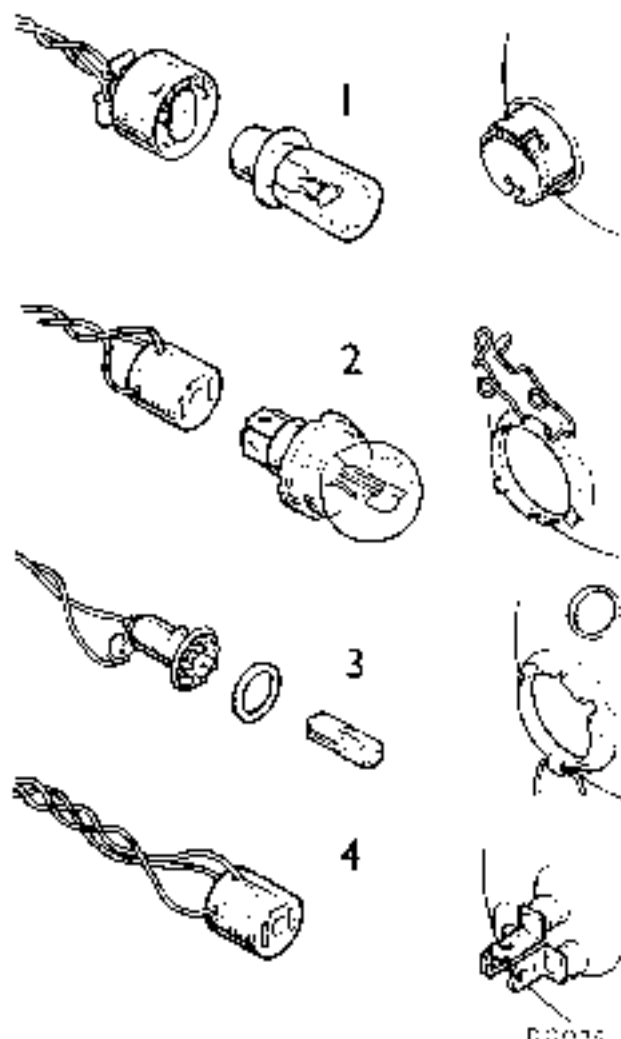

Fig. N.15
Variations within the two basic types cater for the local lighting regulations existing in the country for which the car was produced. The method of retaining and adjusting the light unit together with the type of lens and bulb used are subject to territorial variation. Fig. N.14 shows the alternative methods of retaining and adjusting the light unit and Fig. N.15 the different types of bulb fittings used.
CAP-TYPE HOLDER (1) Fig. N.15
SPRING CLIP TYPE (2) Fig. N.15
HEADLAMP PILOT LAMP (3) Fig. N.15